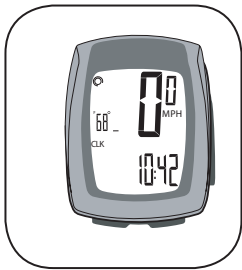

Figure 15- CLOCK screen
1. Cycle **Mode** to CLK (Figure 15).